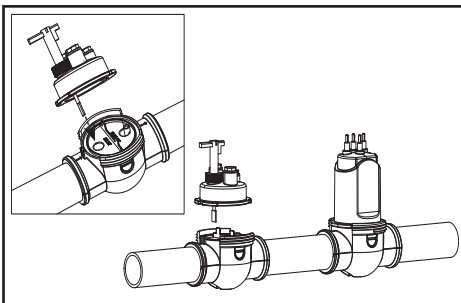

Figure 13. Installing Pod and Cell
12. Install the cell and the pod making sure the pod is installed upstream from the cell. When installing the pod, make sure the flow switch is inserted into the inlet port on the clamp (see Figure 13).